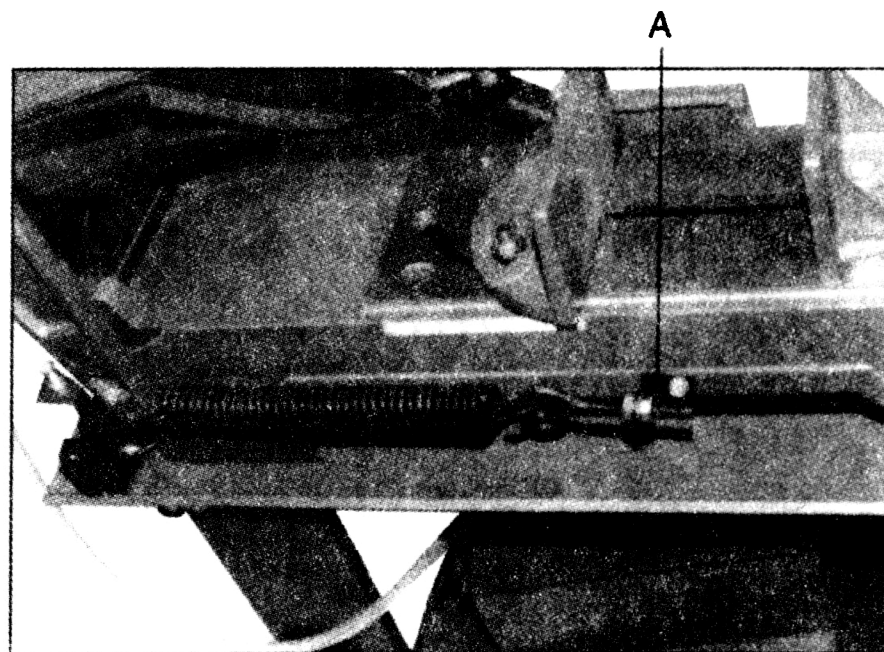

Fig.16
5. Adjust tension to approximately 5-6 kgs. By turning bolt (A, Fig.16).